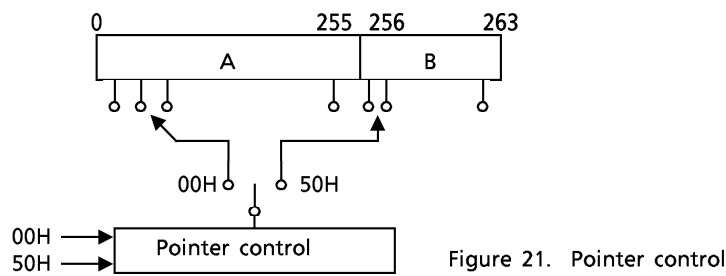

Figure 21. Pointer control
(2) Pointer control for “00H”, “50H”
The TC5816 has two Read modes to set the destination of the pointer in either the main memory area of a page or the redundancy area. The pointer can be designated at any location from 0 to 255 in Read mode (1) and from 256 to 263 in Read mode (2). Figure 21 shows a block diagram of the modes' operations.